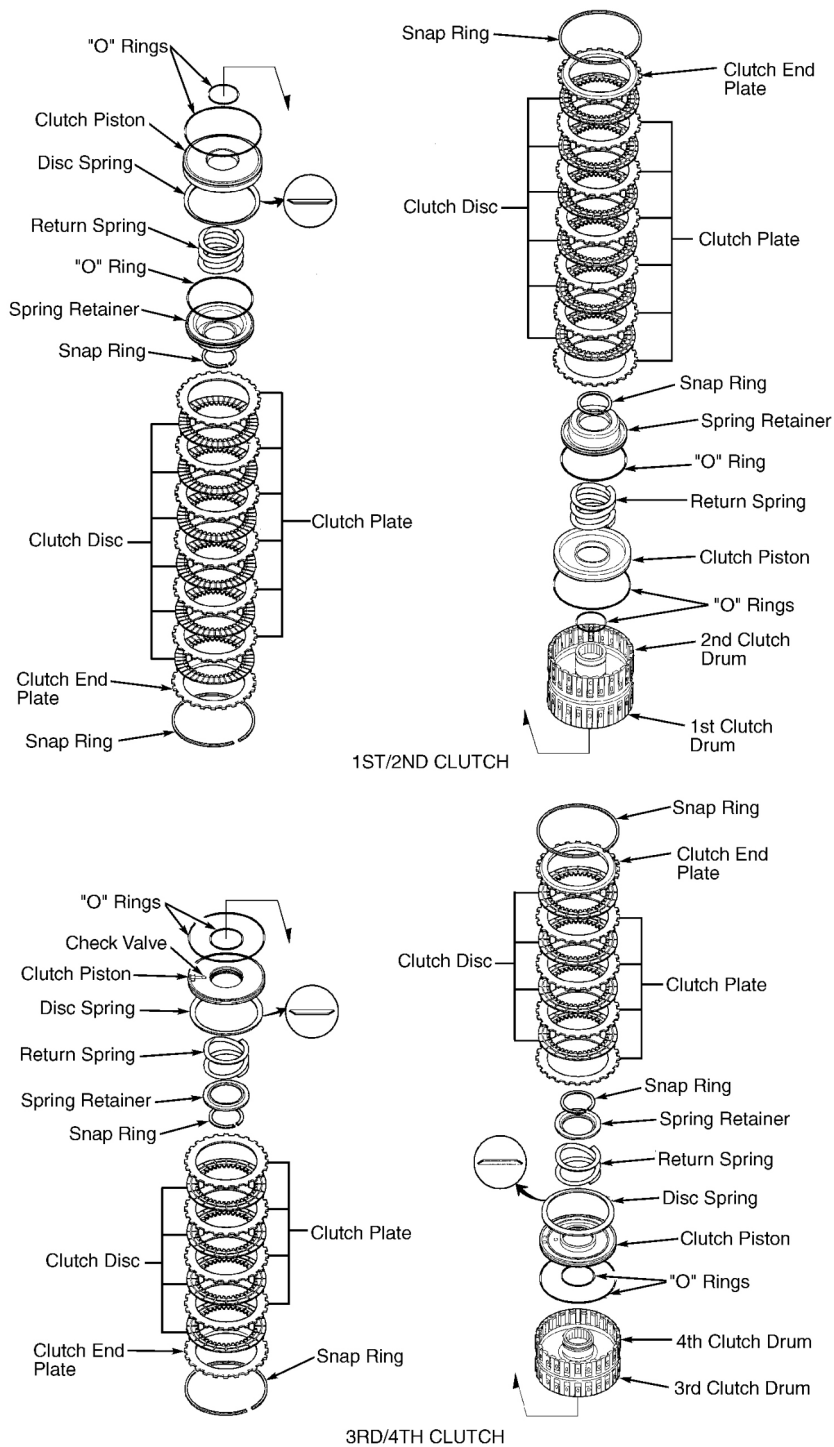

Fig. 28: Exploded View Of Clutch Assemblies
1. Remove snap ring, clutch end plate, clutch discs and clutch plates. See **Fig. 28**.